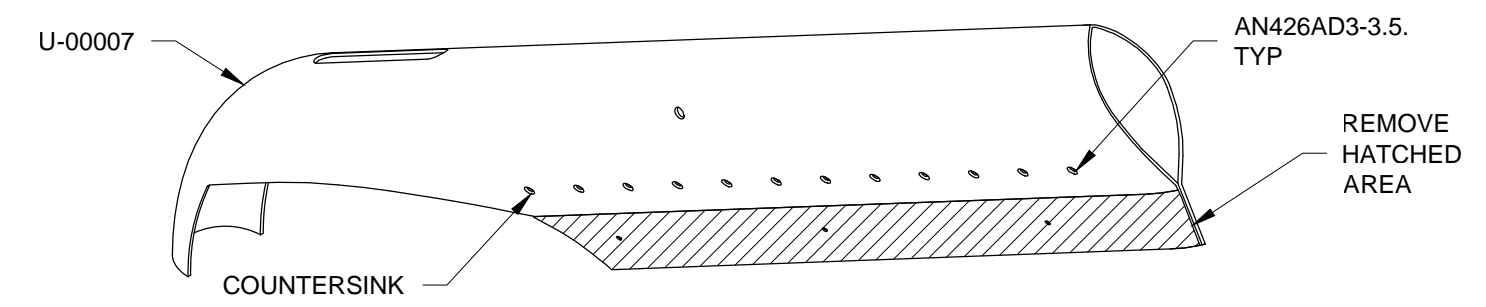

FIGURE 4: TRIMMING THE NOSE LEG FAIRING
Step 4: Machine countersink the rivet holes in both sides of the U-00007 Nose Leg Fairing. Remove the clecos, and U-00007B Nose Leg Hinge from the nose leg fairing. Final trim the nose leg fairing, removing the material as shown in Figure 4.
Rivet the nose leg hinges to the nose leg fairing with the rivets called out in Figure 4.